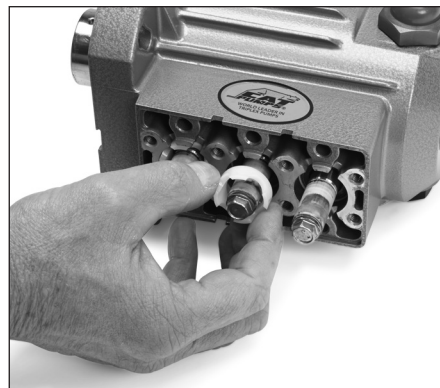

Figure 13
11. On pump series 4SP and 4SPX, slide white seal retainer with flat end facing the crankcase (See Figure 13).